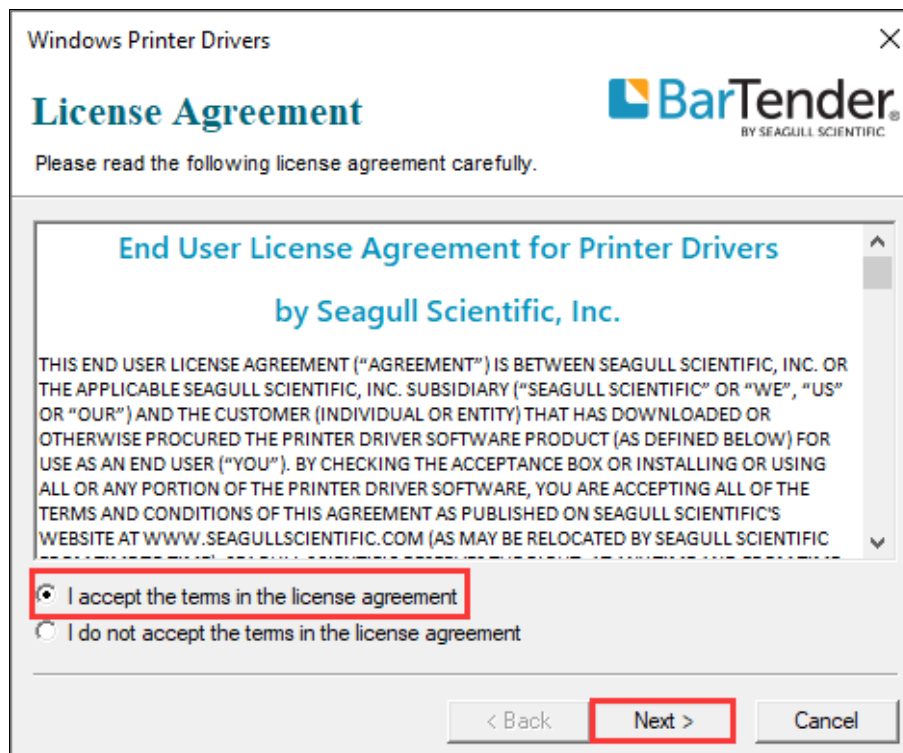

Figure 2-32 License Agreement Screen
3. Double-click the printer driver icon to bring up the “License Agreement” screen. Select “I accept the Items in the license agreement” and click “Next”, as shown in Figure 2-32.